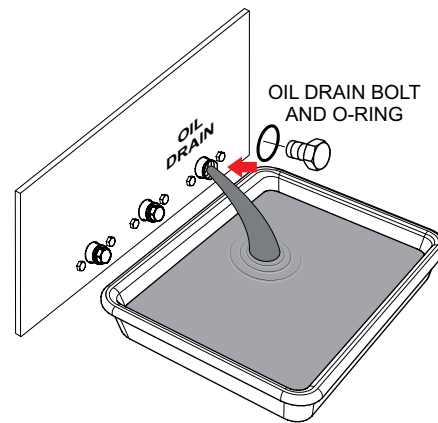

Figure 54. Draining Engine Oil
3. Next, remove oil drain bolt and o-ring (Figure 54), then allow the oil to drain into a suitable container.